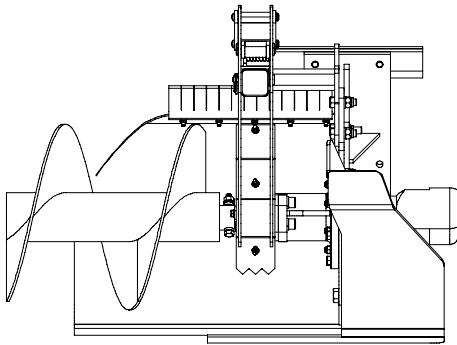

Figure 24
1. Install the bolt in the hole closest to the auger flights. The auger flights should be set as close to the chain as possible [Figure 24].